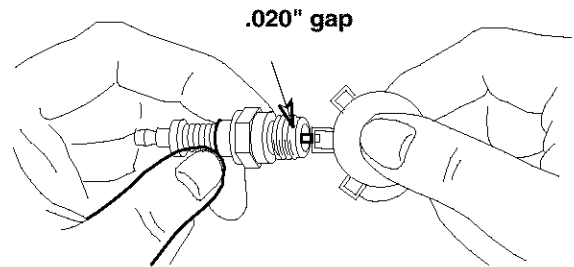

Figure 21
3. Replace the spark plug if electrodes are pitted, burned, or the porcelain is cracked. See Figure 21.
4. Clean the spark plug and reset the gap to 0.020" at least once a season or every 100 hours of operation. See Figure 21. Replace if necessary. Refer to parts list section for part number.